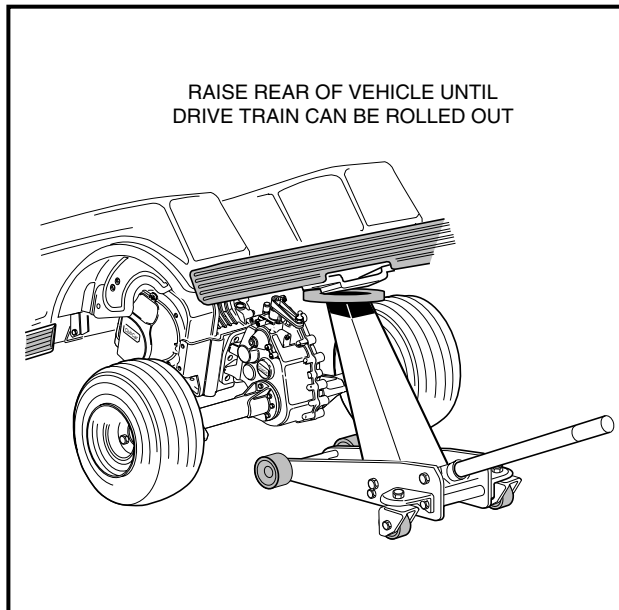

FIGURE 10-25
8. Continue raising the vehicle until the rear bumper is higher than the top of the unitized transmission (high enough to allow the transaxle and engine to be rolled under it and out of the vehicle) (**Figure 10-25**).